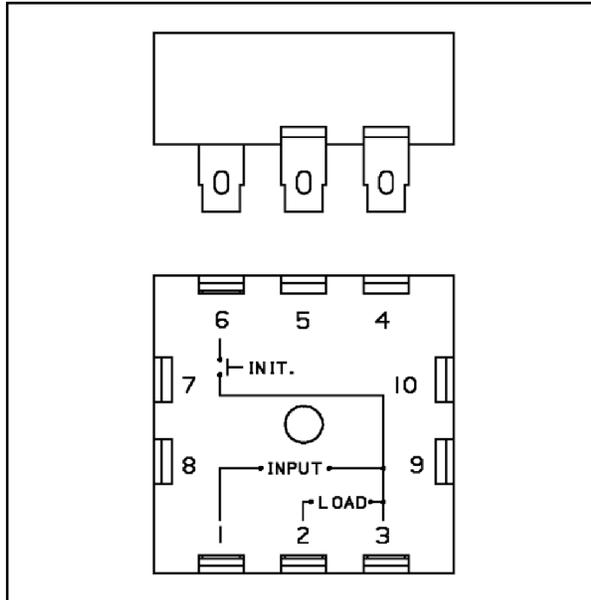
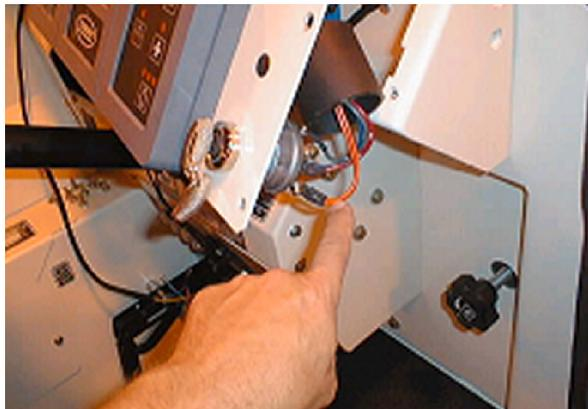
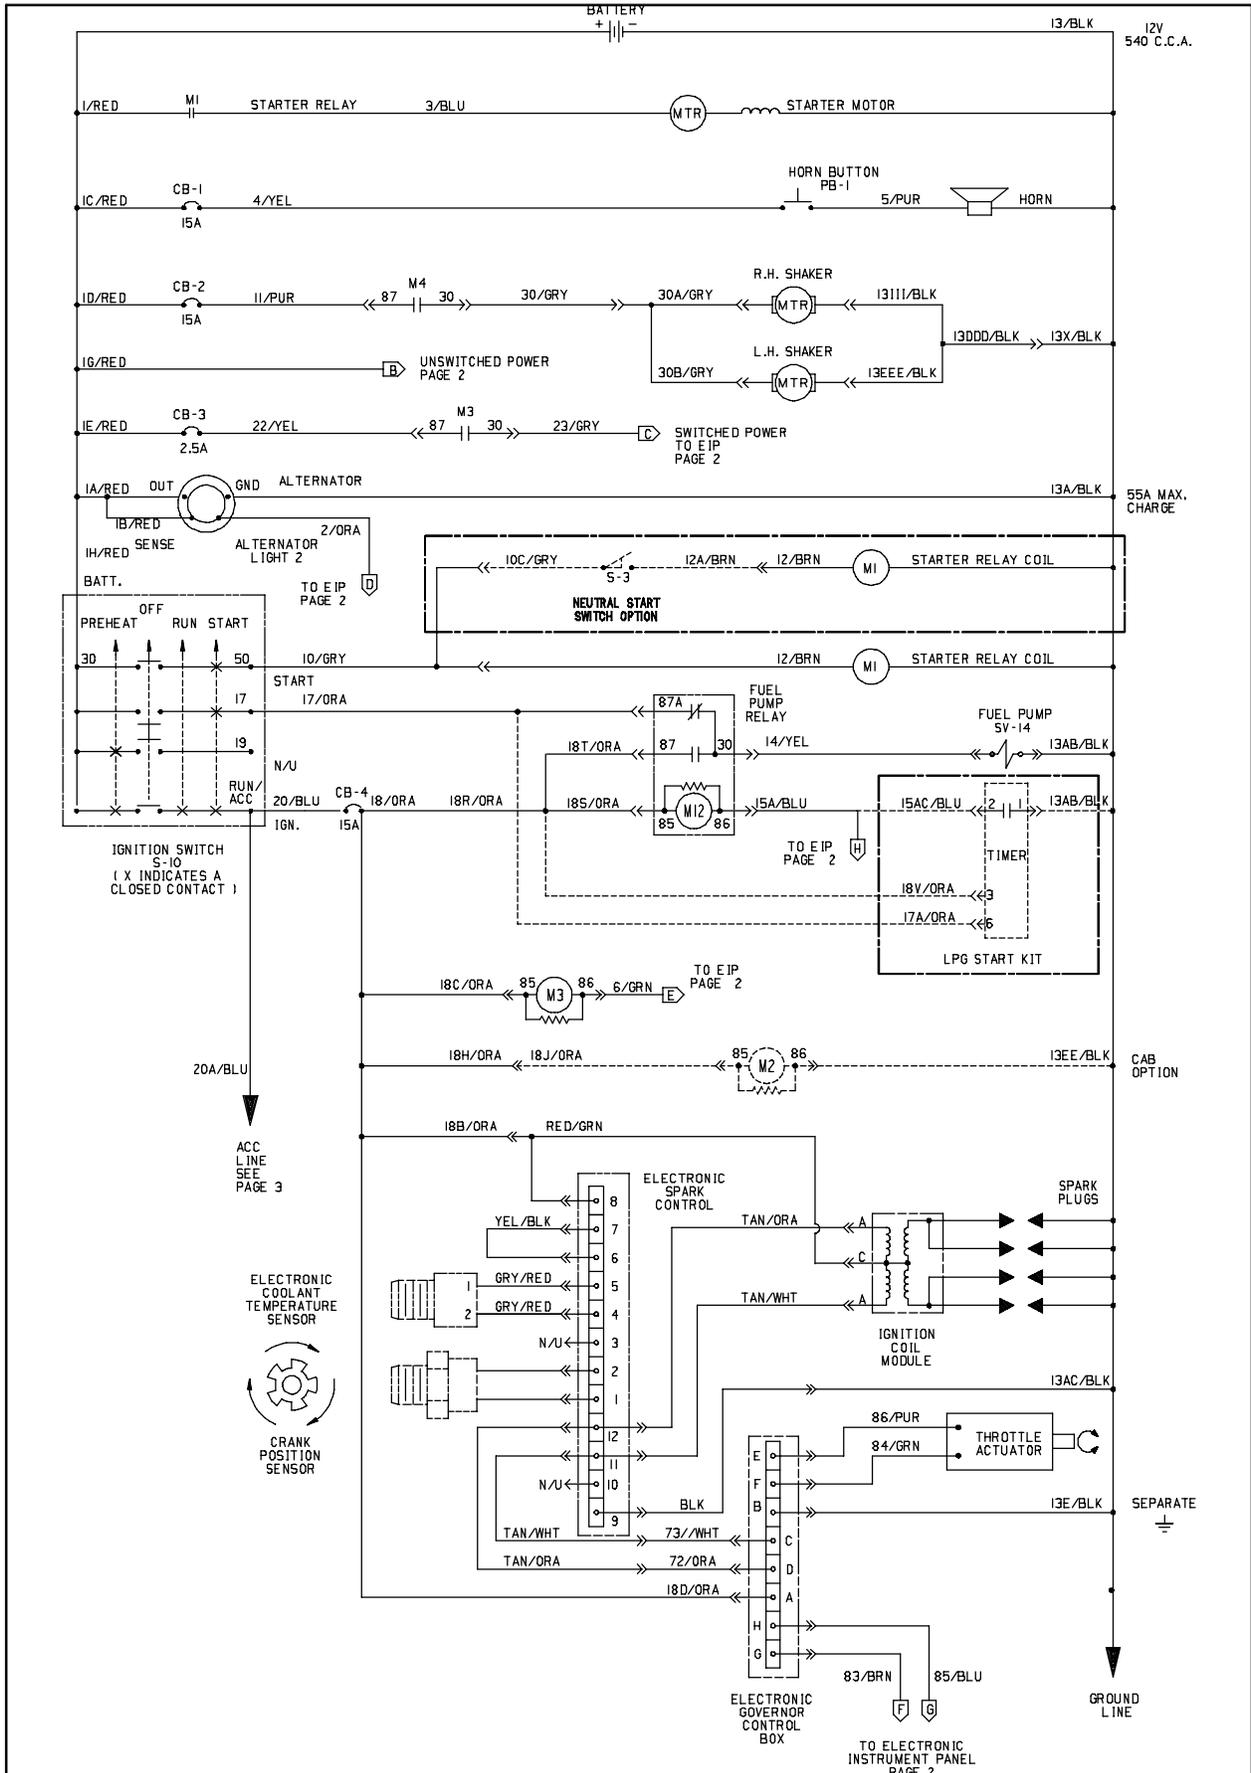

FIG. 2
FIG. 3
FIG. 6
3. Connect the wires labeled 13RA and 13SA on the timer start harness (1) to the connectors located behind the instrument control panel. Refer to Fig. 6 and Fig. 7.
4. Use a hex screw (4), hex nut (5), and washer (6) to mount the timer (2) to an existing hole in the back wall of the Instrument panel compartment. Do not overtighten the hardware since doing so could damage the timer.
5. Connect wires labeled 1, 2, 3, and 6 on the timer start harness (1) to the appropriate terminals on the timer (2). Refer to Fig. 2, Fig. 6, and Fig. 7.
6. Connect the wire labeled KSW-17 on the timer start harness (1) to terminal 17 on the key switch containing wire 17/ORA from the main harness. Refer to Fig. 3, Fig. 6, and Fig. 7.
9. Use the crimp splices and the heat shrink from the timer start harness (1) kit to splice the wires labeled 15AB, 15AA, and 18V into the main harness wires of relay 12. Refer to Fig. 6 and Fig. 7.